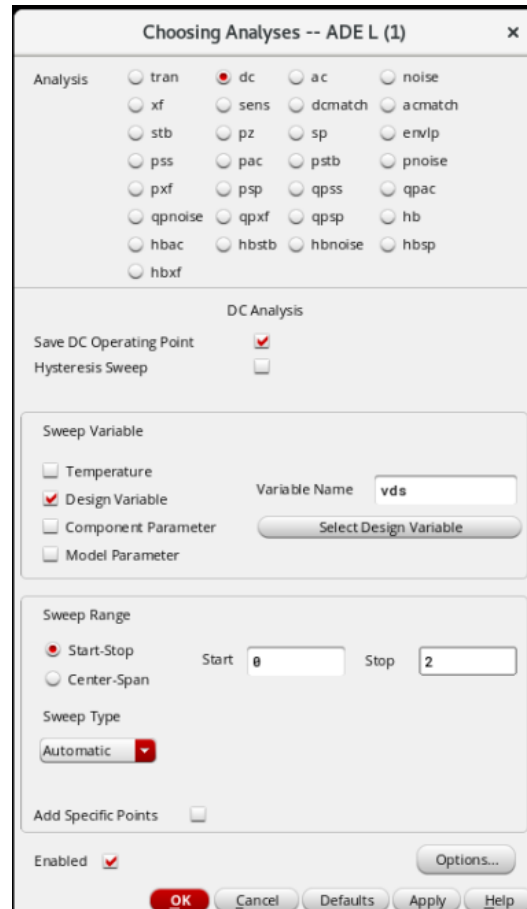

Figure 4: DC Analyses Settings for ADE Simulation
6. Next, you will need to set what type of analysis will be done in this simulation. On the ADE toolbar, select Analyses > Choose..., and set the options as shown in Fig. 4 for a DC analysis. Be sure that the Variable Name in the 'Sweep Variable' section is the same as one of the design variables copied from your schematic.
**Note:** Parametric analysis can be used for other types of simulations (AC, transient, etc.) whereas the DC sweep variable set in the DC analyses options (Fig. 4) can only be used in DC simulations.